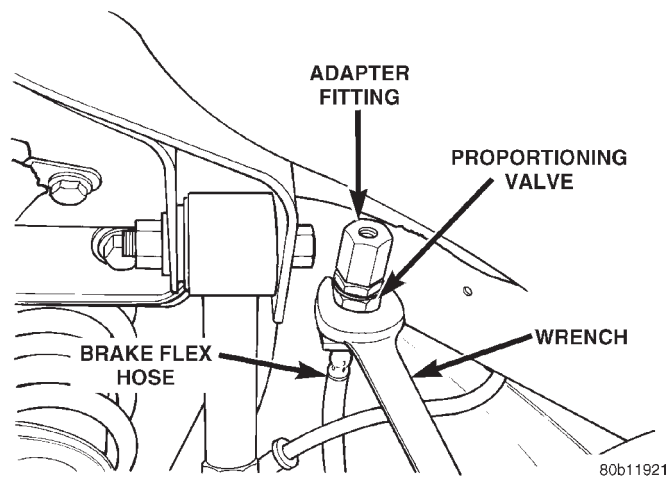

Fig. 15 Proportioning Valve Removal
CAUTION: When removing proportioning valve from flex hose place wrench on proportioning valve (Fig. 15) not adapter fitting. The adapter fitting (Fig. 15) is not to be removed from the proportioning valve.
(2) Remove proportioning valve from brake flex hose (Fig. 15).